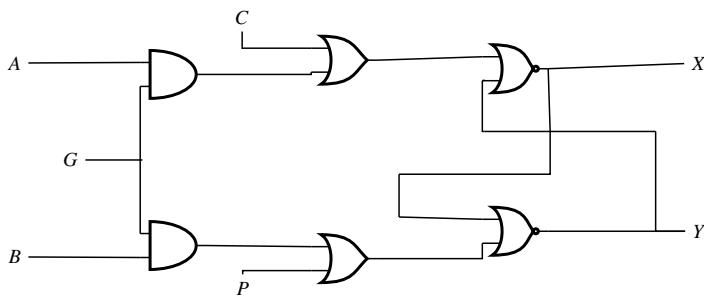

Fig. 5.36
41. For the following circuit Fig. 5.36, the correct logic values for the entries X_2 and Y_2 in the truth table in Table 5.3 are